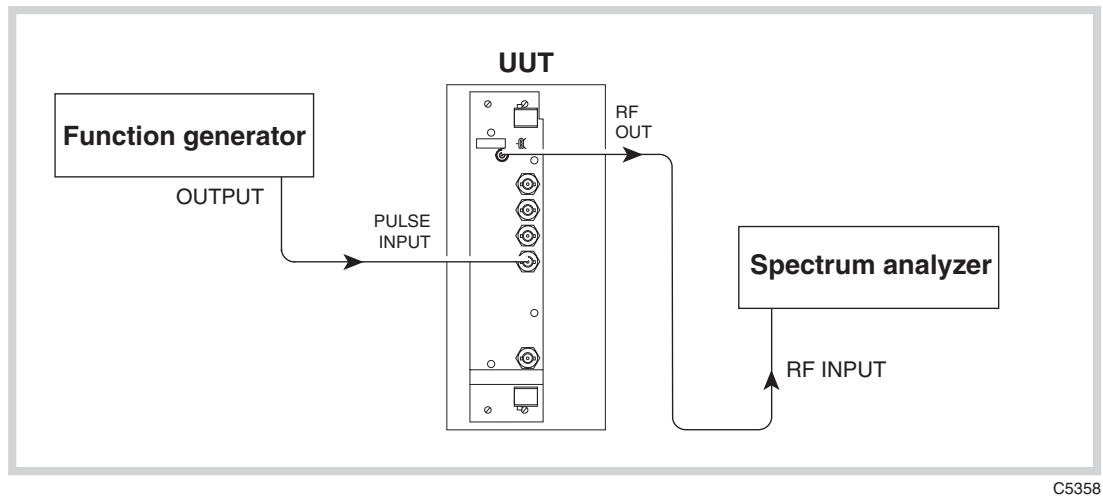

Fig. 5-11 Pulse modulation on/off ratio test set-up
- (1) Press CAL on the spectrum analyzer.
- (2) Connect the test equipment as shown in Fig. 5-11.
- (3) On the UUT set: